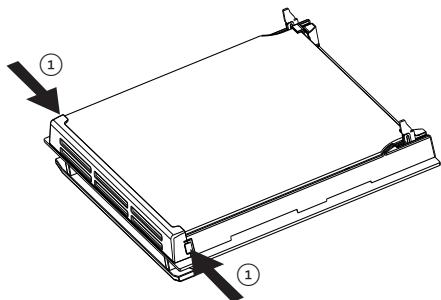

Fig. 4.13
- Touch the glass retainer tabs in on both sides of the door and remove the glass retainer (fig. 4.13, 4.14).